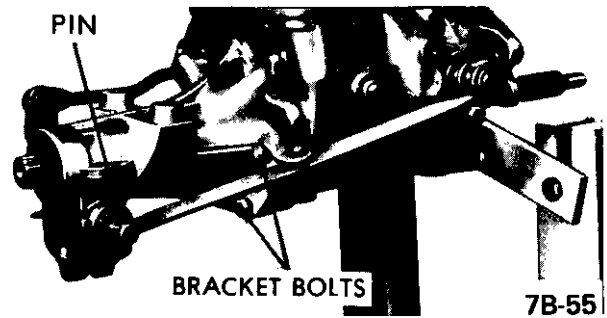

Figure 7B-55 Pin and Bracket Securing Selector Lever to Intermediate Shaft and Bearing Retainer
2. Holding selector lever and support in place, torque (2) bracket bolts and spring washers to 14.5 lb. ft. See Figure 7B-55.